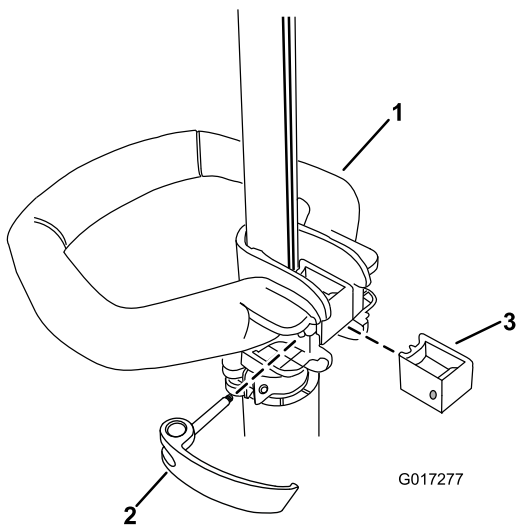

Figure 1
- Slide the latch from the left through the handle and brace as shown and tighten the latch screw with a Phillips head screwdriver (Figure 1).
- Position the auxiliary handle on the shaft of the trimmer with the smooth surface facing the operator (Figure 1).
- Slide the brace into the auxiliary handle so that the brace rests in the groove along the shaft (Figure 1).